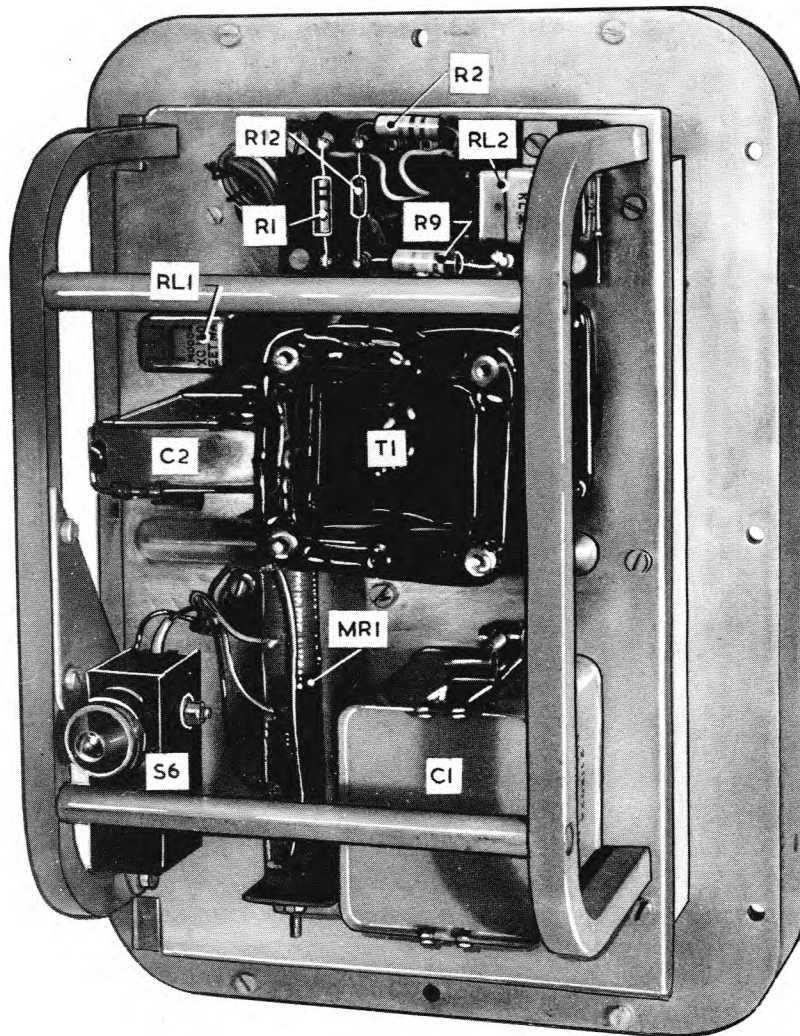
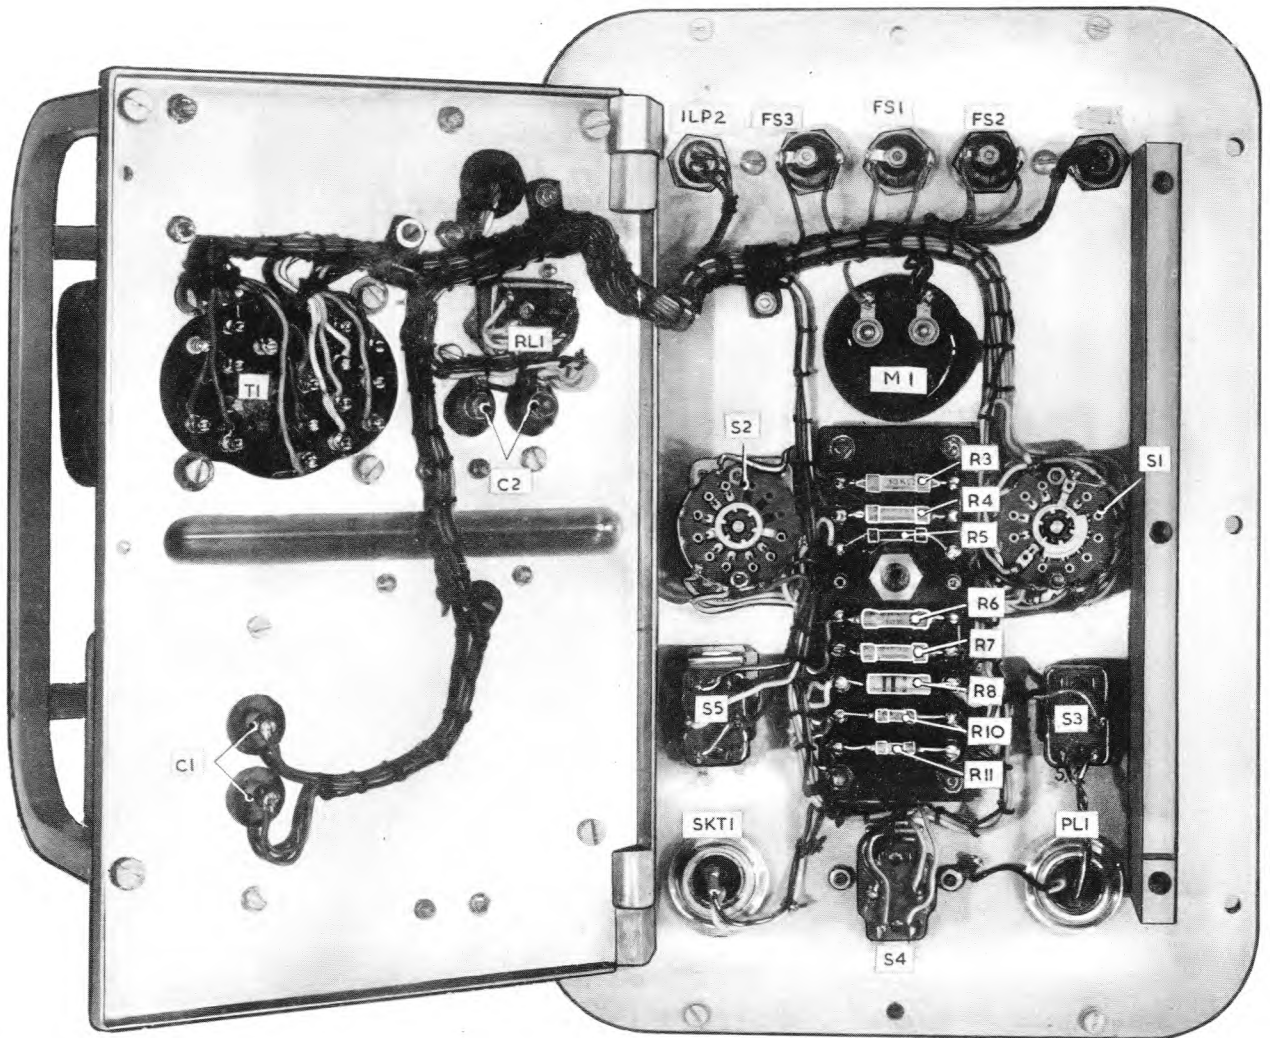

Fig.2. Reforming unit, rear view, with case removed
Fig.3. Reforming unit, rear view with case and chassis removed
5. Figure 2 shows the panel and chassis assembly removed from the case. Heavy guard rails are fitted to the back of the chassis, and a microswitch S6, (in the mains input circuit) is fitted near the lower end of the left-hand rail in such a position that installing the case will make, and removing the case will break the mains supply circuit.
7. The left-hand edge of the chassis (fig.2) is pivoted to two pillars on the front panel, the right-hand edge is secured by three screws to an aluminium strip on the panel and, for additional rigidity, the centre of the chassis is secured to a pillar on the panel by one screw. When these four screws are removed, the complete chassis may be swung back to give access to the components and wiring located between the chassis and panel, as shown in fig.3. The meter and the various switches are easily identified in the illustration.